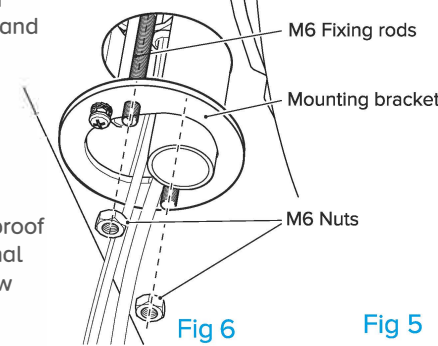

Fig 6
3. Then thread the mounting bracket over to hoses. Position the mounting bracket over the tap assembly and align with the two M6 threaded rods. Secure into position using the M6 nuts and tighten by hand see figure 6.